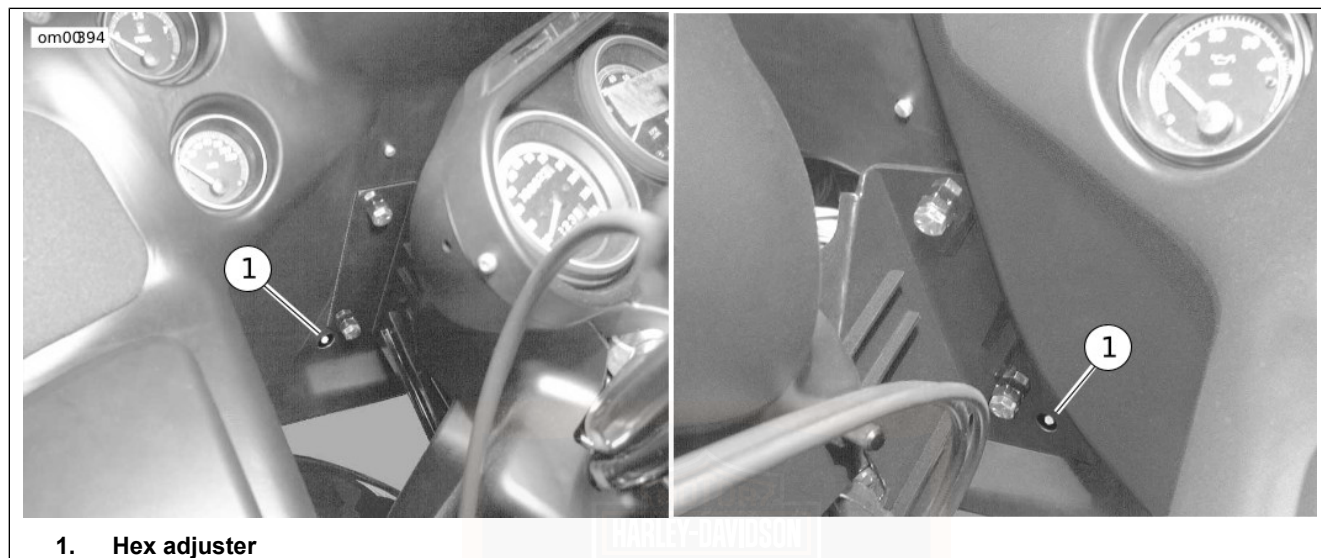

Figure 65. Headlamp Adjustment: FLTR
1. See Figure 65. Fit a 4.5 mm deep socket and a flexible driver to the hex adjusters near the bottom edge of the left and right inner fairing. The adjusters pivot the double headlamp housing around its upper mount.